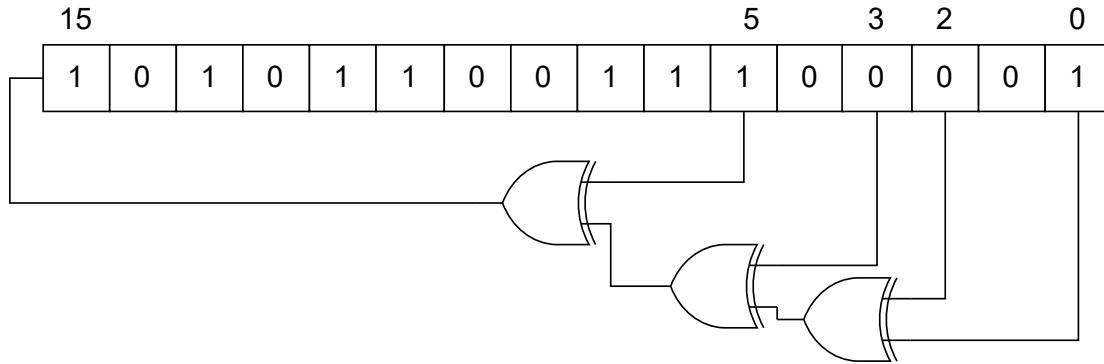

Figure 1: 16-bit LFSR Example
2. Create a 16-bit LFSR module as shown in Figure 1 using your shift register module, which is a 16-bit LFSR with bits 0, 2, 3, and 5 tapped. The most significant bit is labeled as bit 15, and the shift direction is to the right. Generate the RTL schematic and **add the screenshot of the RTL schematic to your report.(10% Credits)**